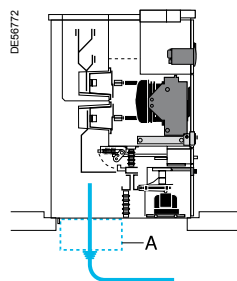

Figure 2
- For reconstructed cables of length exceeding 460 mm, provide for the installation of an additional compartment under the cubicle (ref. A, figure 2)